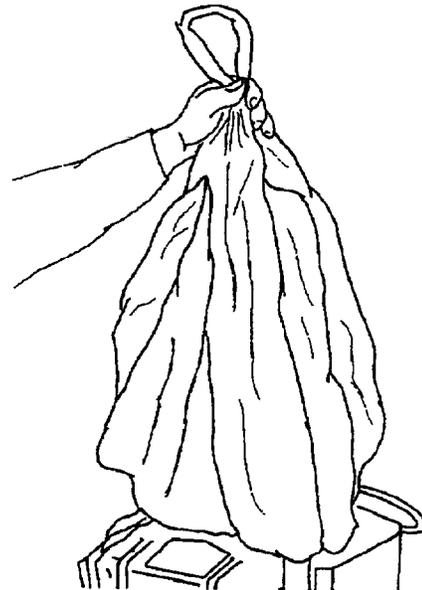

Figure 6. Helper Shall Lower Canopy
h. Helper shall lower canopy, skirt hem first, into drogue container (Figure 6).